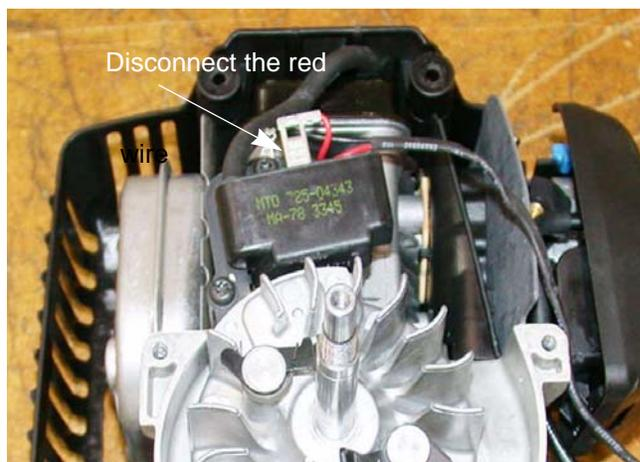

Figure 4.2
3. Disconnect the red wire. See Figure 4.2.